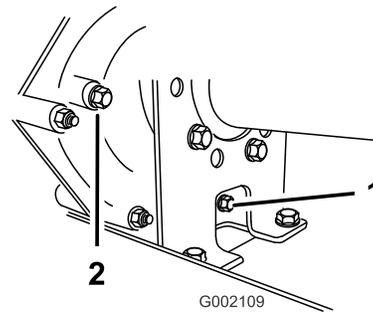
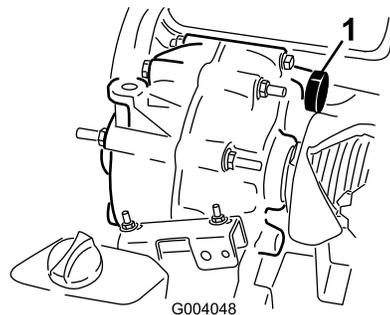

Figure 59
Figure 60
2. Wipe the area around the fill and drain plugs clean with a rag (Figure 59).
4. Remove the fill plug by rotating it counterclockwise (Figure 59).
5. Remove the drain plug by rotating it counterclockwise (Figure 59).
6. Install and tighten the drain plug and gasket into the drain-plug hole of the transmission (Figure 59).
7. Fill the reservoir (Figure 60) through the fill-plug hole with approximately 1.4 L (1.5 US qt) of the specified fluid or until the fluid level in the transmission is even with the bottom of the threads. (Figure 59).
8. Install and tighten the fill plug and gasket into the fill-plug hole of the transmission (Figure 59).
- Check the fluid level and add more fluid if the level is below the threads of the fill-plug hole (Figure 59).